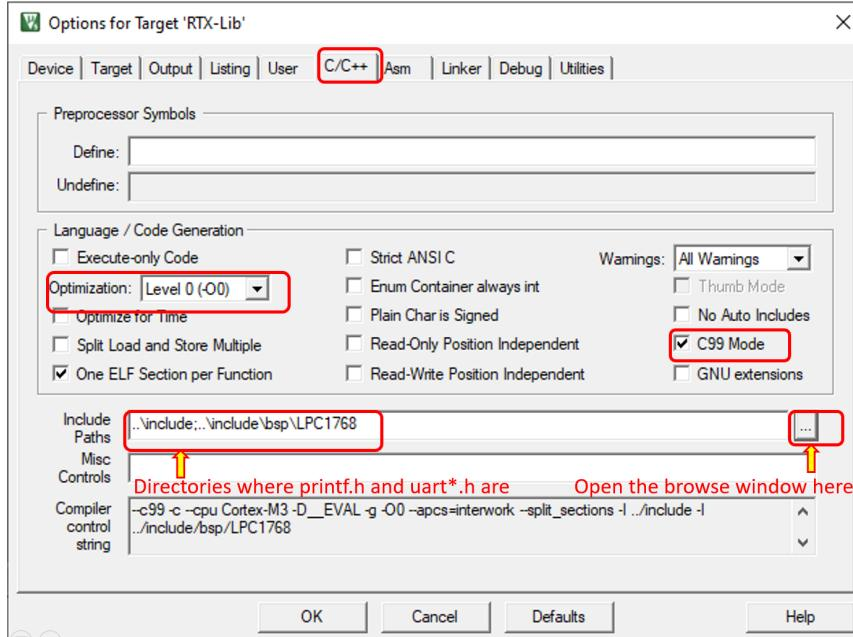

Figure 7.44: Keil IDE: Target Options C/C++ Tab Configuration
4. Configure the C/C++ tab as shown in Figure 7.44. In addition to the configuration you did for HellWorld application, you also need to specify the include path so the compiler knows where to find the header files. Note we moved the header files to a separate directory rather than having them in the same directory where the .c files are.
We need to specify the include path in the C/C++ tab of the target option since now all header files are in a separate folder (see Figure 7.44). And we need to do this update for both the SIM and RAM targets. We are now ready to build the application, just press the build button as usual (see Figure 7.17). You will see the application is built and a `.axf` file is generated (see Figure 7.48). You may either use the debugger to run it on the simulator or on the board as usual.